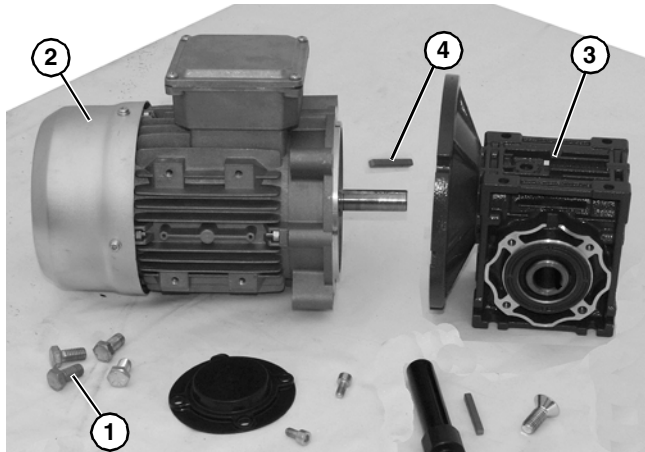

Figure 19
5. Remove four screws (**Figure 19, item 1**). Detach motor (**Figure 19, item 2**) from gear reducer (**Figure 19, item 3**). Retain shaft key (**Figure 19, item 4**).
9. Apply anti-seize to motor shaft before assembling to gearbox. With key (Figure 19, item 4) in keyway, slide motor (Figure 19, item 2) and gear reducer (Figure 19, item 3) together. Install screws (Figure 19, item 1) and tighten.